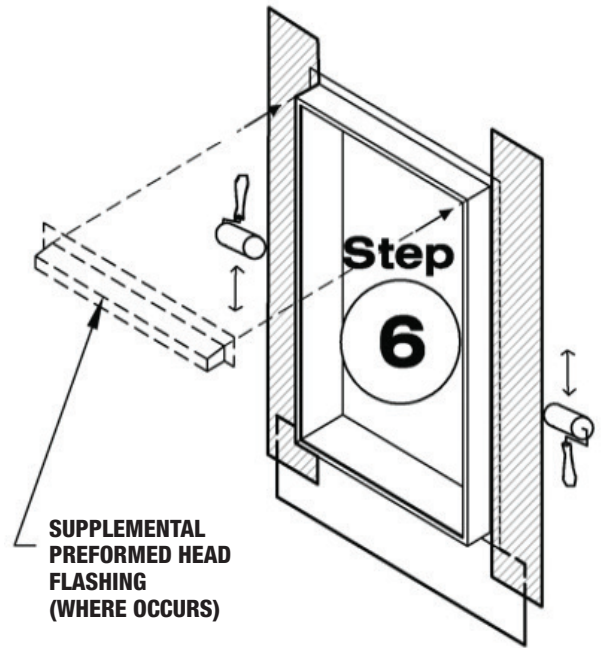

Figure 7 Apply jamb flashing.
Step 6. Precut FrogTape Pro Grade Flashing Tape for the jambs to extend a minimum of 6 in above and below the prepared rough opening (see Figure 7).